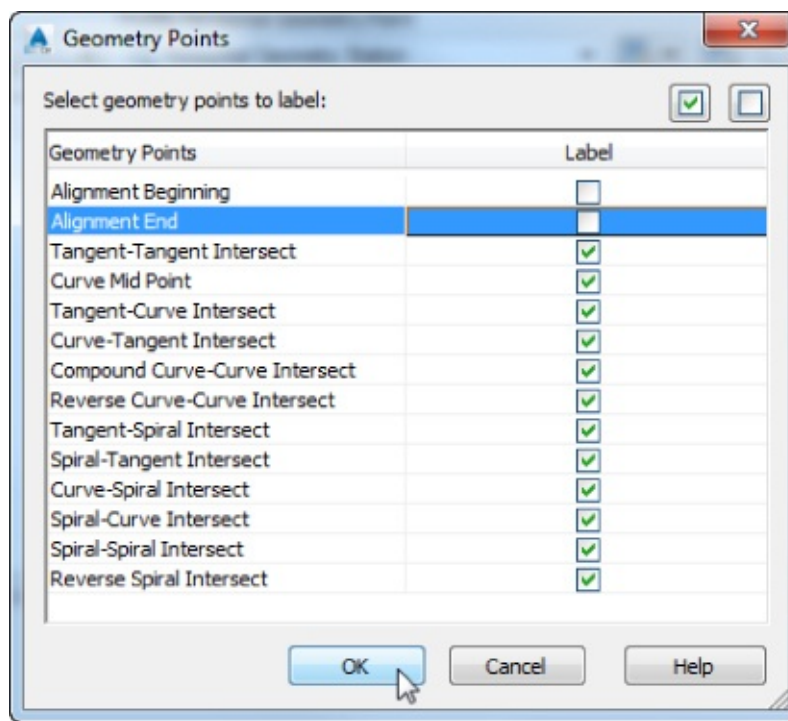

Figure 18.41 The Geometry Points dialog appears when you add labels to horizontal geometry points.
8. Select the Horizontal Geometry Station style, and click Add again to display the Geometry Points dialog shown in Figure 18.41.
9. Deselect the Alignment Beginning and Alignment End rows, as shown in Figure 18.41, and click OK to close the dialog.